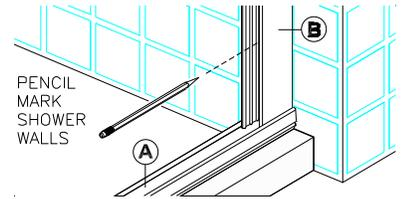

figure 2
3. Place Wall Jambs (B) on to ends of Sill (A) and up against shower walls as shown in figure 2. Plumb the Jambs, then pencil mark their installation holes locations on the shower walls (3 per jamb). Remove Wall Jambs. Use a 3/16" drill bit (designed to drill through material you are working with) to drill 1-1/4" deep installation holes in locations previously marked. Insert Plastic Screw Anchors (I) into holes.